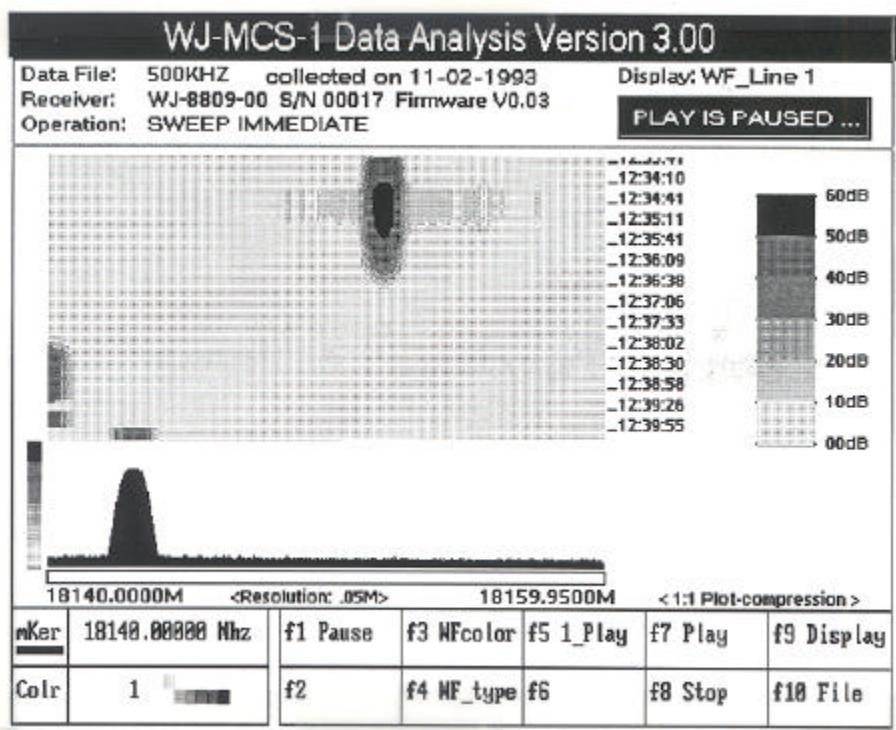

Figure I-37. DATA ANALYSIS WF_Line 1 Display
- b. "Trac" - (Trace)/"Colr" - (Color) field displays the "Trac" command field while in the "3-D" display mode and display the "Colr" command field while in the Waterfall display mode. The Trace command field allows the operator to enter the number of 3-D traces (**Figure I-37**) to be displayed on the screen. When this command is activated by placing the cursor under the word "Trac" and pressing the <Enter> key, brackets appear in the trace field. Enter the desired number of traces (from 2 to 15) and press the <Enter> key. When the 3-D display is selected and the sweep is started, the first 3-D trace is displayed and moves up as the second trace begins. Subsequent traces continue to move up previous traces until the selected number of traces are displayed. Each new trace appears at the bottom of the display, and the oldest trace is "bumped" off the top. The "Colr" command field allows the operator to change the waterfall display color.
1. "WF_Line 1" - (Waterfall Line 1, shown in **Figure I-37**) uses a combination of two-dimensional and three-dimensional displays. The two-dimensional display represents frequency (x-axis) versus signal amplitude (y-axis) in a block format display. The three-dimensional display represents frequency (x-axis) versus time (y-axis) versus signal amplitude (color code). The two-dimensional display is cleared prior to each sweep, while the three-dimensional display retains sweep data.